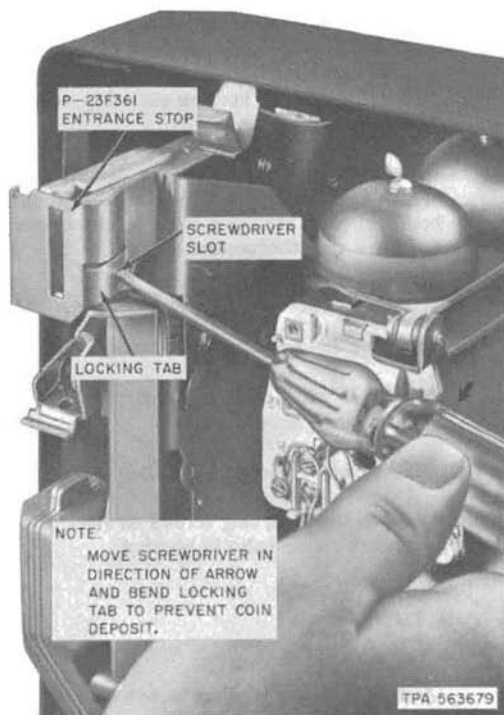

Fig. 34—Operation of Entrance Stop
4.31 The P-23F361 entrance stop (Fig. 34) is installed on the chute to minimize coin chute stuffing. When the coin release lever is operated, the entrance stop moves sideways and closes the coin slot.
4.32 On later production entrance stops, a prefabricated locking tab arrangement (Fig. 34) can be bent with a screwdriver, by authorized personnel, to hold the upper plate assembly off normal. This will prevent customer coin deposits in newly installed coin telephone sets awaiting initial service connection, or those that are out of service which require further maintenance or repair.